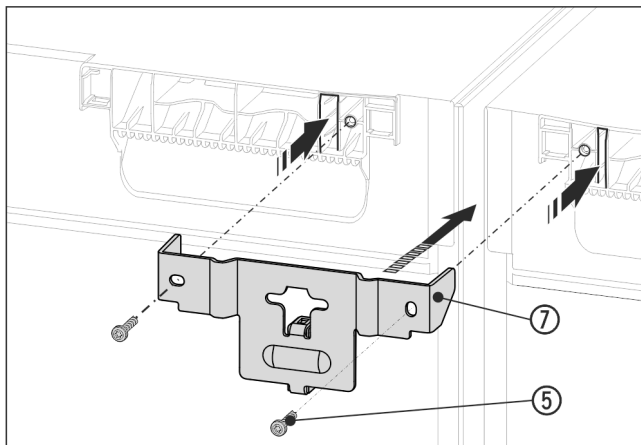

Fig. 16 Example illustration
- Slide the bracket Fig. 16 (7) with the spacer between the appliances and onto the appliance ceiling with the lugs. Tighten with 2 screws Fig. 16 (5).